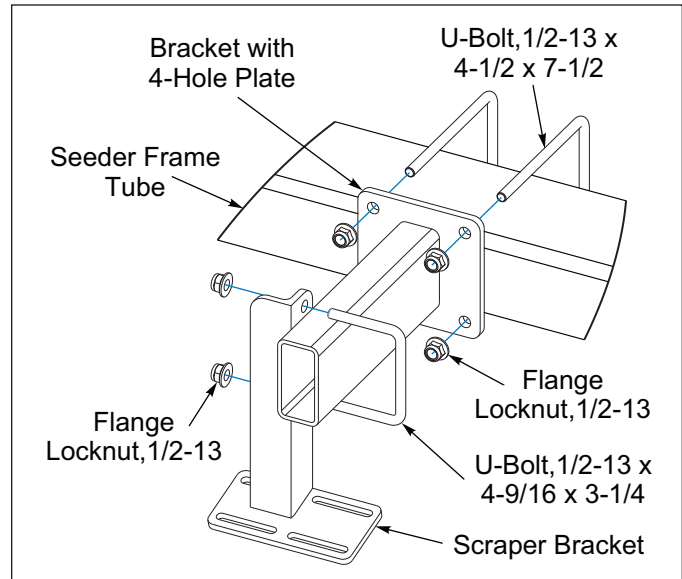

Figure 2-45: Scraper Brackets
3. Attach the Scraper Brackets to the Bracket Tube with a 1/2-13 x 4-9/16 x 3-1/4 U-Bolt and Flange Locknuts. Do Not tighten at this time. See Figure 2-45.